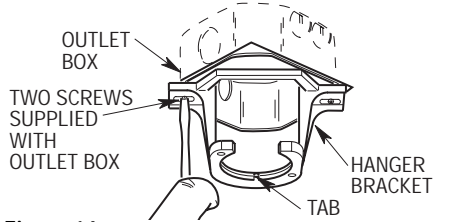
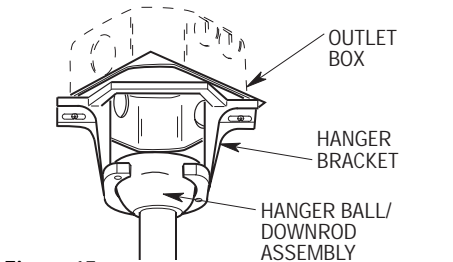

Figure 14
Figure 15
- 1. Securely attach the hanger bracket to the outlet box using the two screws supplied with the outlet box (Figure 14).
- 2. Carefully lift the fan and seat the hanger ball/downrod assembly on the hanger bracket that was just attached to the outlet box (Figure 15). Be sure the groove in the ball is lined up with the tab on the hanger bracket (Figure 14).